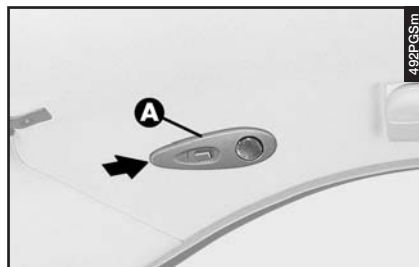

fig. 71
- Remove the roof light (**A-fig. 71**) levering in the point illustrated.